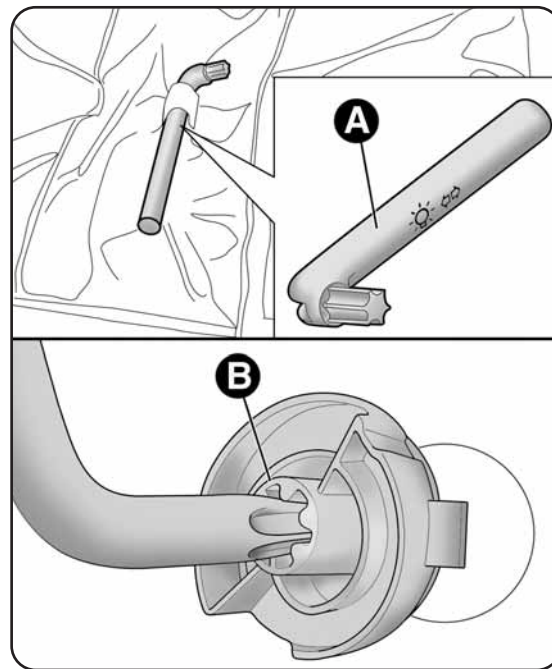

fig. 25
- take key A-fig. 25 (located in the document holder case), insert in seat B and turn the bulb holder anticlockwise;